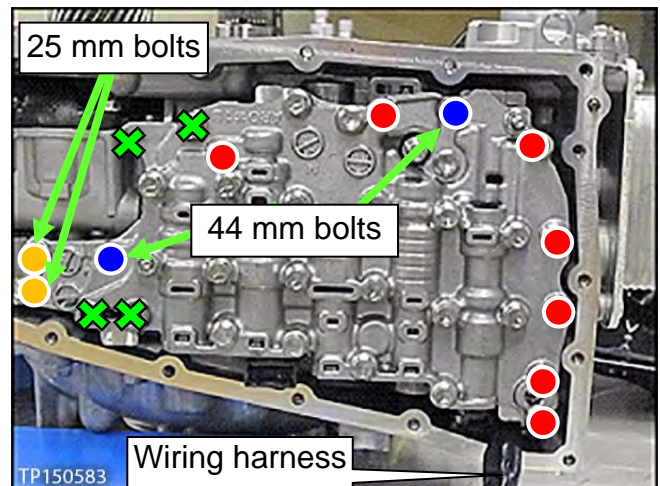

Figure 27
3. Install the Control Valve with nine (9) mounting bolts (Figure 27).